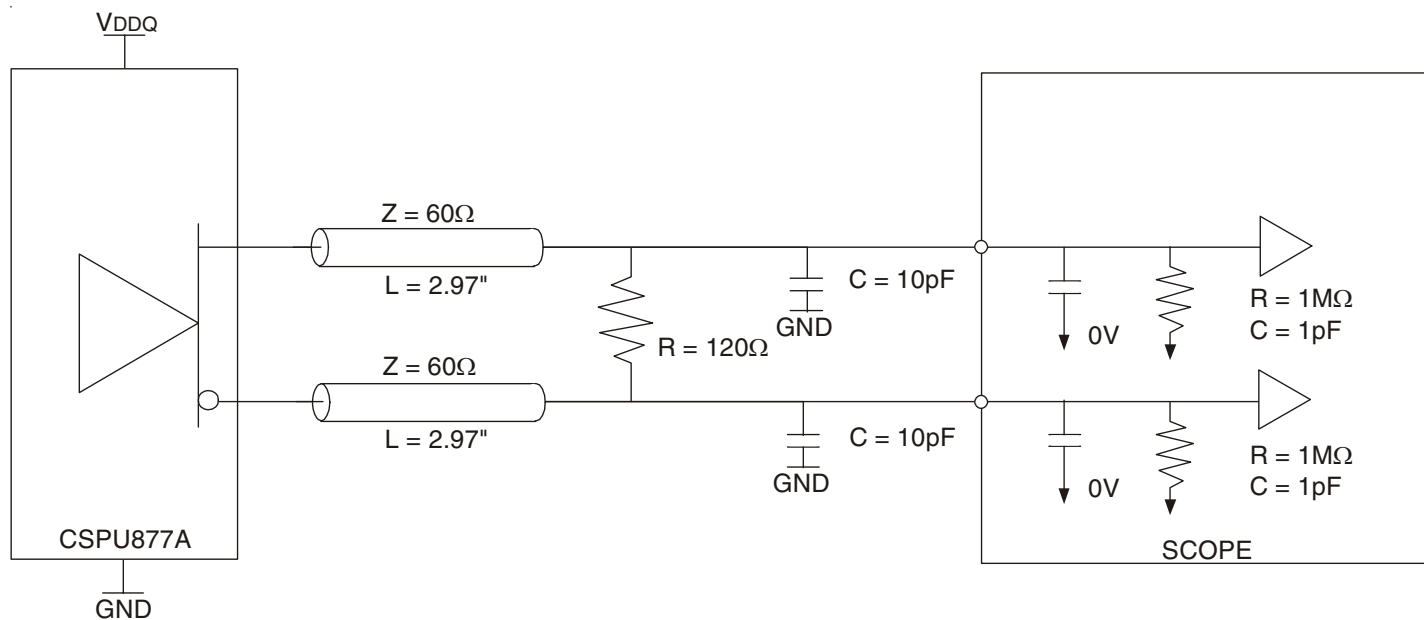

Figure 1: Output Load Test Circuit 1
1. There are two different terminations that are used with the above AC tests. The output load shown in figure 1 is used to measure the input and output differential pair cross-voltage only. The output load shown in figure 2 is used to measure all other tests, including input and output slew rates. For consistency, use 50Ω equal length cables with SMA connectors on the test board.